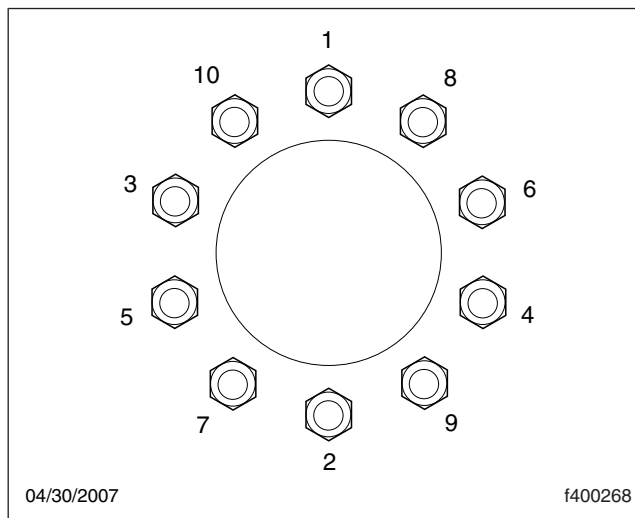

Fig. 20.3, Tightening Pattern, 10-Hole Wheels
- 4.3 Make sure all wheel nuts are tightened. If tightening is necessary, use the tightening pattern in **Fig. 20.3** to initially tighten the flange nuts to 50 to 100 lbf·ft (68 to 136 N·m). Then tighten the flange nuts to 450 to 500 lbf·ft (610 to 678 N·m).